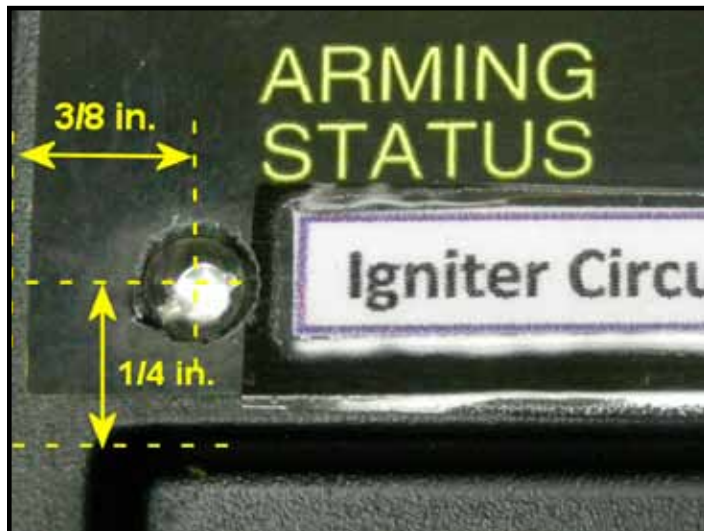

Figure 4: Location of the hole for the LED light.
19) Mark a drilling position 3/8" from the controller faceplate left edge, and 1/4" from the edge of the interlock key storage tray as shown in Figure 4.